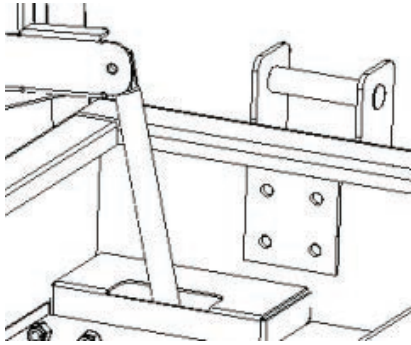

Figure 1 (Piano Box shown)
1. Mount the brackets on the ENDS of the unit, as close to the outside corners and as high up as possible. Place backing plate on the inside surface, making sure your location is not interfering with interior parts such as gas spring guards, angles, etc. (See Fig. 1) Some units will come with pre-punched holes for mounting the lifting brackets. In this case, skip to step 4.